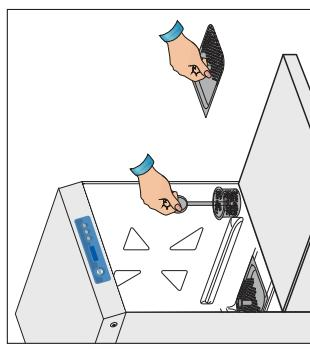

Fig. 1
1. Check if the pump suction filter is properly inserted in its seat on the wash tank bottom (Fig.1). This filter must be cleaned every 20 wash cycles or whenever necessary. \*Do not use the appliance without the filters.
2. Put the surface filter in place (Fig.1), shut the dishwasher door, turn the water valve open and turn the main power switch on.